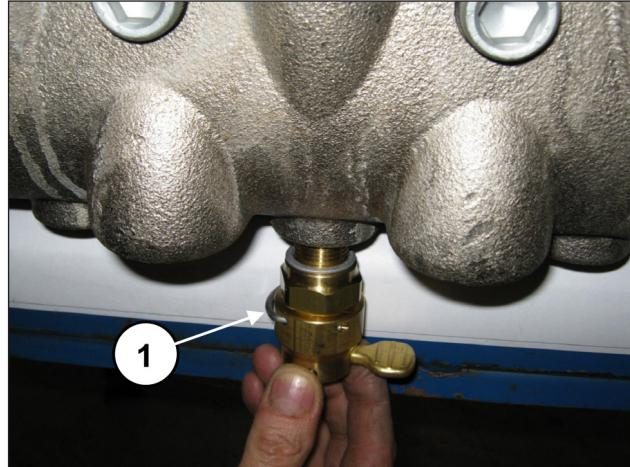
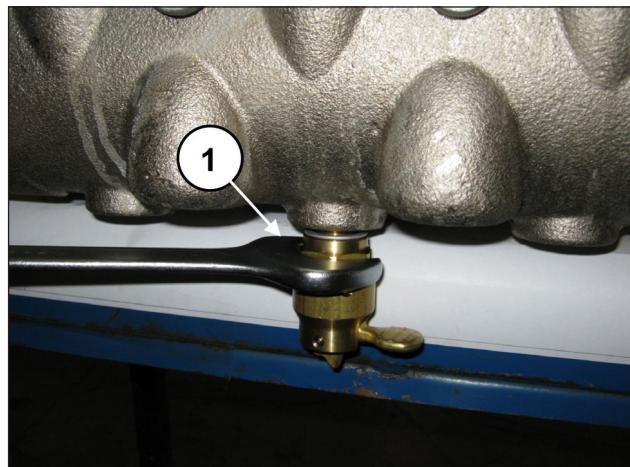

Fig. 133
Fig. 134
Apply the valve opening devices (pos. ①, Fig. 133) and screw them in using a 30 mm wrench (pos. ①, Fig. 134).